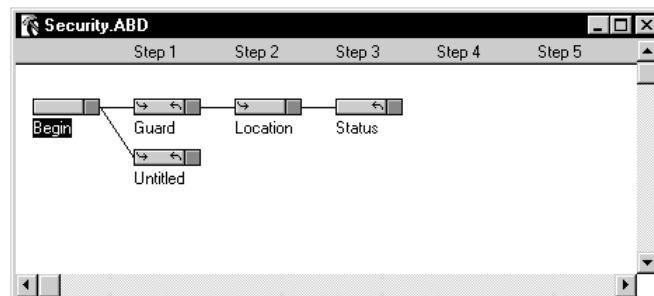

Figure 4-31 New Input Handler Added
4. A new untitled Input Handler is added to the “Begin” Handler (Figure 4-31).